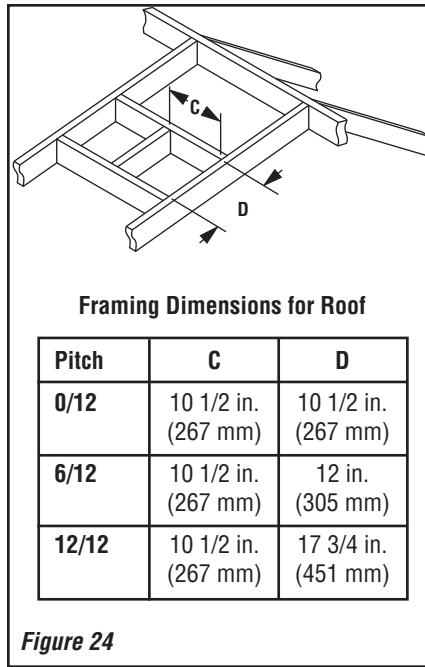

Figure 24
H. Frame roof opening—Identify location for vent at the roof. Cut and/or frame opening per Roof Framing Chart and **Figure 24**.